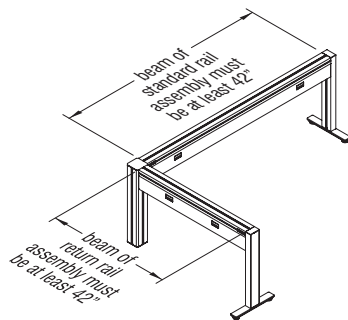

Figure 18
- A single rail assembly must have a return attached (Figures 18 & 19).
- The return worksurface or return rail assembly must be at least 42" in length (Figures 18 & 19).
- To attach a return worksurface or return rail assembly, the beam of the standard rail assembly must be at least 42" in length (Figures 18 & 19).